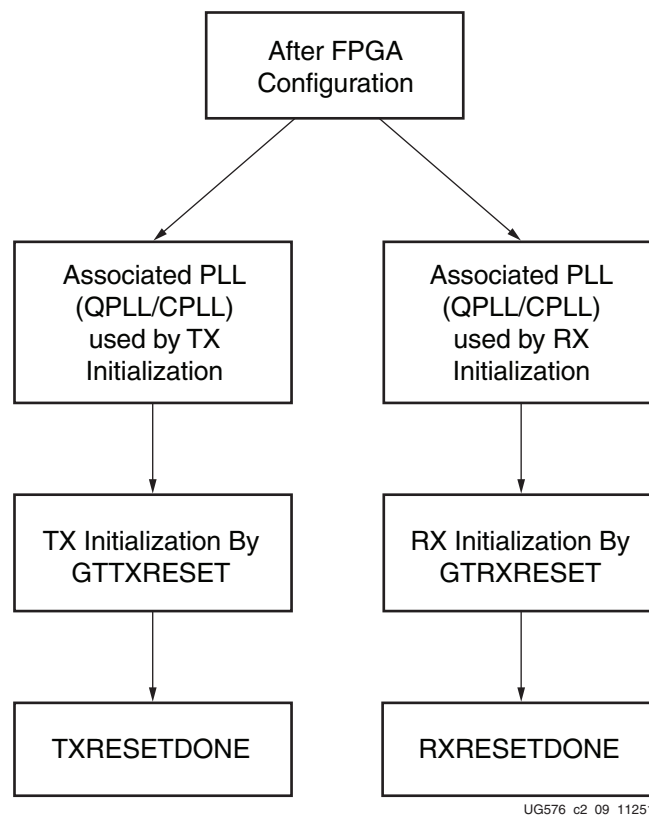

Figure 2-9: GTH Transceiver Initialization Overview
The GTH transceiver must be initialized after FPGA device power-up and configuration before it can be used. The GTH transmitter (TX) and receiver (RX) can be initialized independently and in parallel as shown in Figure 2-9. The GTH transceiver TX and RX initialization comprises two steps: